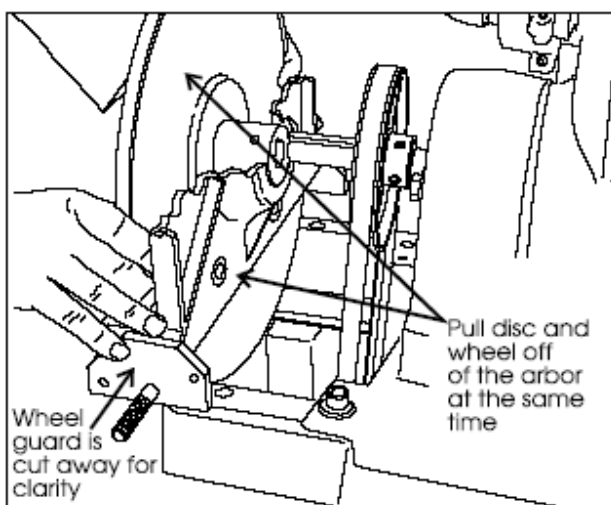

Figure 13: Removing the guard and drive disc, together.
8. Slide the disc and its guard off of the machine, together (See Figure 13).